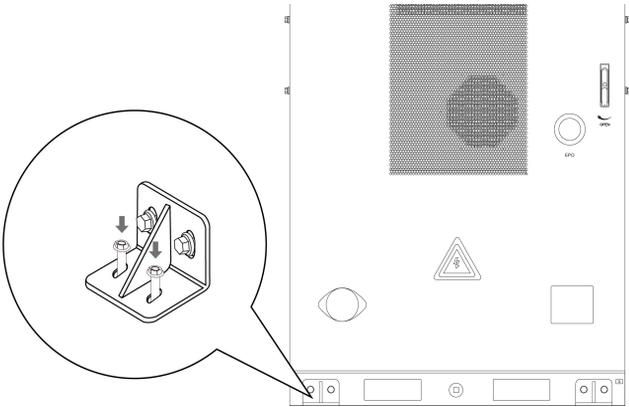

Figure.4
4. Secure the cabinet to the ground by mounting nuts onto the expansion bolts. (Figure.4)